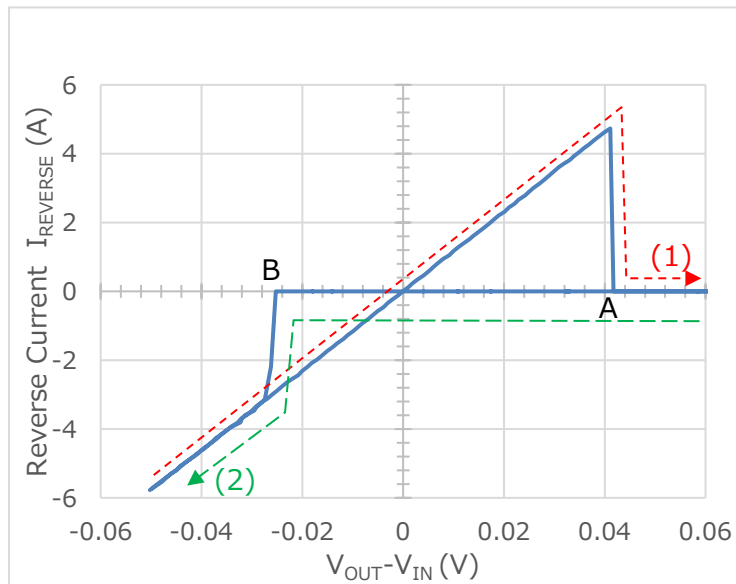

Fig. 3.5.2 Reverse current characteristics of TCK111G
Fig. 3.5.2 shows the reverse current characteristics of the actual true reverse current blocking in TCK111G, which is a Toshiba Load Switch IC with a true reverse current blocking. As indicated by the line (1), the  $I_{REVERSE}$  increases as the difference ( $V_{OUT}-V_{IN}$ ) between the output voltage and the input voltage increases. However, the reverse current blocking works at the point A, which is a difference of about 40mV, and the  $I_{REVERSE}$  does not flow. As indicated by the line (2), after the backflow prevention circuit is activated, the backflow prevention circuit stops at the point B where  $V_{IN}$  is approximately 30mV larger than  $V_{OUT}$ , and current begins to flow in the forward direction.